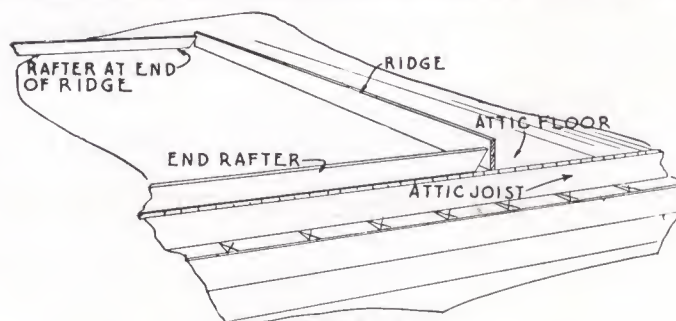
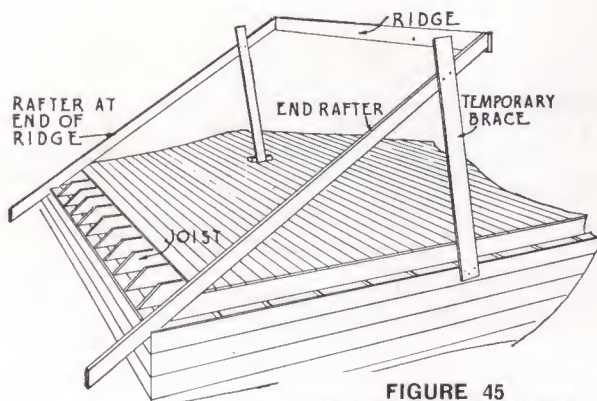

FIGURE 44
FIGURE 45
- (b) Take the end piece of the ridge board marked RIDGE and lay it on edge. Then lay out, at right angles to it, one end rafter and another rafter near the other end of the ridge (see Figure 44). Space the rafters the correct distance apart, as shown on ROOF FRAMING PLAN. Nail the ridge to these rafters with two 8-penny common nails at each rafter. Raise this small section of the roof into position. Brace temporarily with any 1-inch lumber (see Figure 45).